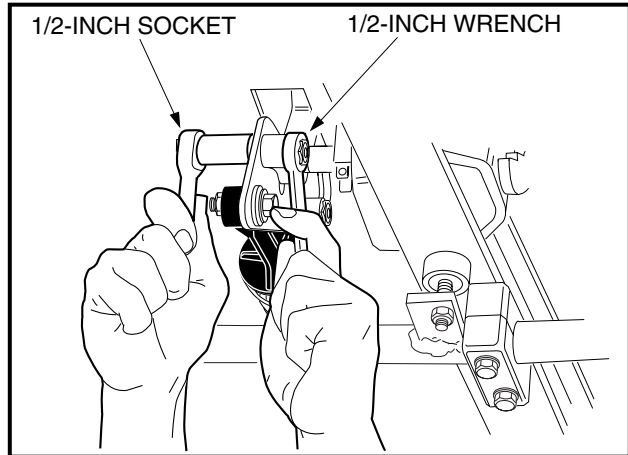
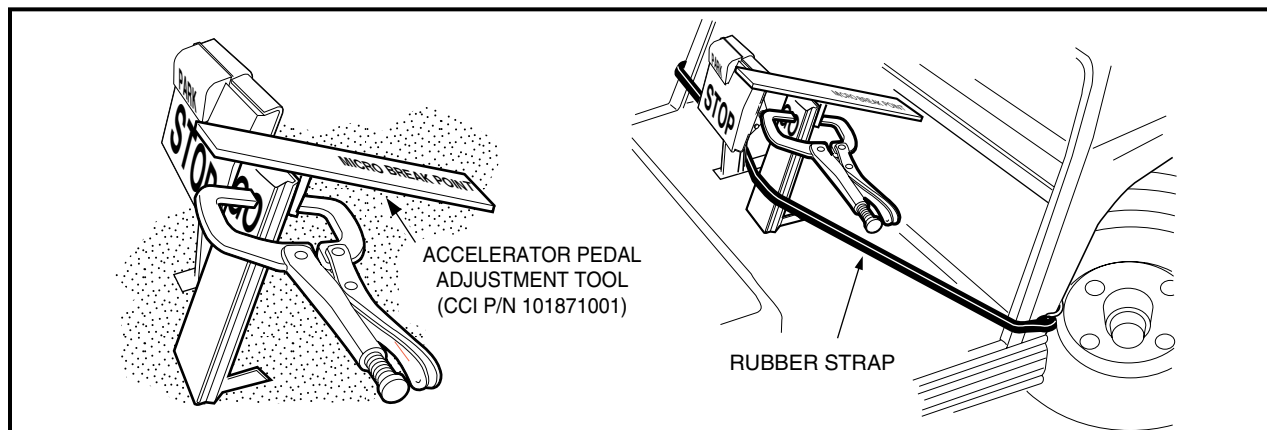

Figure 5-17 Accelerator Pedal Height Adjustment
Figure 5-18 Accelerator Pedal Height Adjustment
- 4.1. Loosen the nut and bolt (Figure 5-17, Page 5-14) securing the accelerator pedal to the pivot plate. Clamp the accelerator pedal adjustment tool (CCI P/N 101871001) to the accelerator pedal, with the end marked accelerator pedal height closest to the floorboard. Depress the accelerator pedal until the end of the tool rests against the floorboard; pedal height should be 5-5/8 inches (14.3 cm). Use a rubber strap to hold pedal in position against the floorboard and then tighten nut to 26 ft-lb (35.3 N·m) (Figure 5-18, Page 5-14).